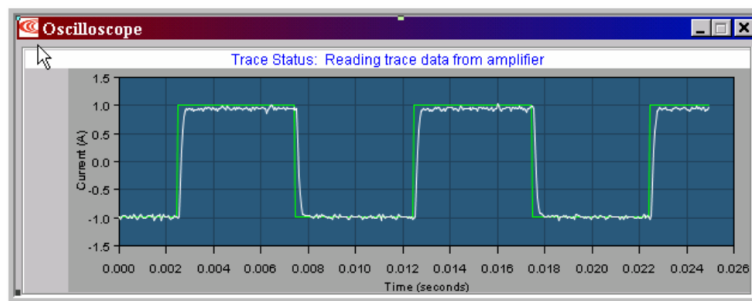

Figure 13.10: A plot of the reference square wave current and the actual measured current during PI current controller tuning.
2. **Tune the current control loop.** Set a limit on the integrated current to avoid overheating the motor. This limit is based on the integral $\int I^2 dt$, which is related to how much energy the motor coils have dissipated recently. (When this limit is exceeded, the motor current is limited to the continuous operating current until the history of currents indicates that the motor has cooled.) Also, tune the values of P and I control gains for the PI current controller. This tuning is assisted by plots of reference and actual currents as a function of time. See Figure 13.10. The current control loop executes at 20 kHz, which is also the PWM frequency (i.e., the PWM duty cycle is updated every cycle).